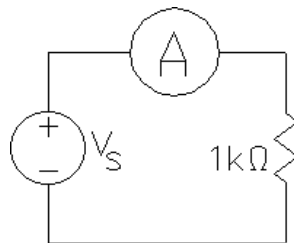

Fig. 5 Circuit diagram for the current measurement.
2. Modify your circuit so that it is wired according to Fig. 5. We will be using the multimeter to perform the current measurement (using the same ports of the multimeter as for the voltage measurement). As a result, your setup should look like that shown in Fig. 6.
Fig. 6 Implementation of the circuit shown in Fig. 5 with the power supply serving as V_s and the current measurement being performed by the multimeter (in series with the resistor).
1. We will now construct the circuit shown in Fig. 5, but this time using your breadboard. To do this, first plug only your 1 k Ω resistor into the breadboard (make sure the two ends of the resistor are *not* electrically connected inside of the breadboard!).
3. To finish building the circuit in Fig. 5, we will be separately connecting each of the four power supply and multimeter's alligator clips to one of the four wires you just picked out. The other end of each of those four wires will be plugged into the breadboard. Make sure you choose the correct wire color for each of the alligator clips, and then connect the other end of those four wires to the correct places on the breadboard (depending on where you put your resistor).